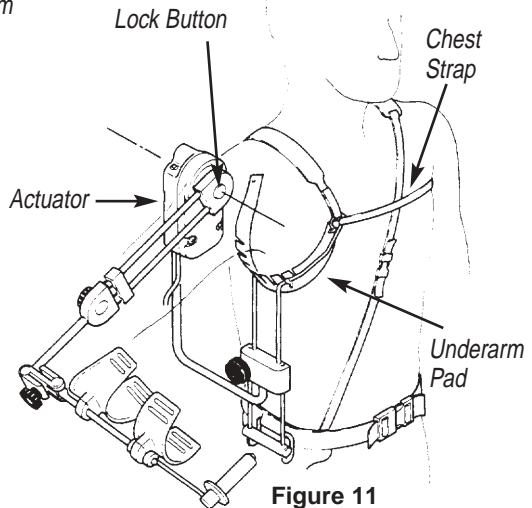

Figure 11
- The Lock Button located on the inside of the Actuator should align with the center of rotation of the patient's shoulder (Figure 11). This is achieved by adjusting the height of the Underarm Pad, the Chest Strap and the angle of the Actuator.